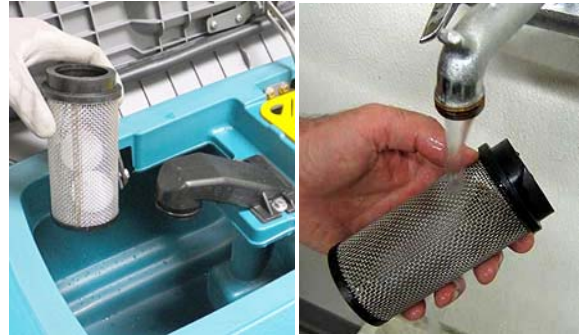

FIG. 77
3. Remove and clean the float shut-off screen (Figure 77).